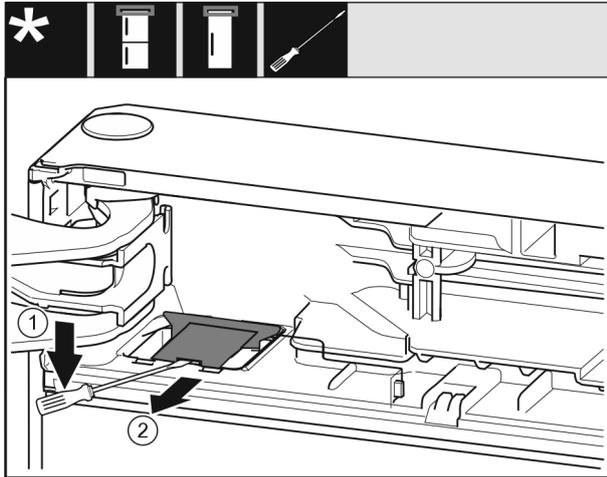

Fig. 14
- ▶ Use a flat-blade screwdriver to disengage the cover Fig. 14 (1).
- ▶ Remove the cover Fig. 14 (2).